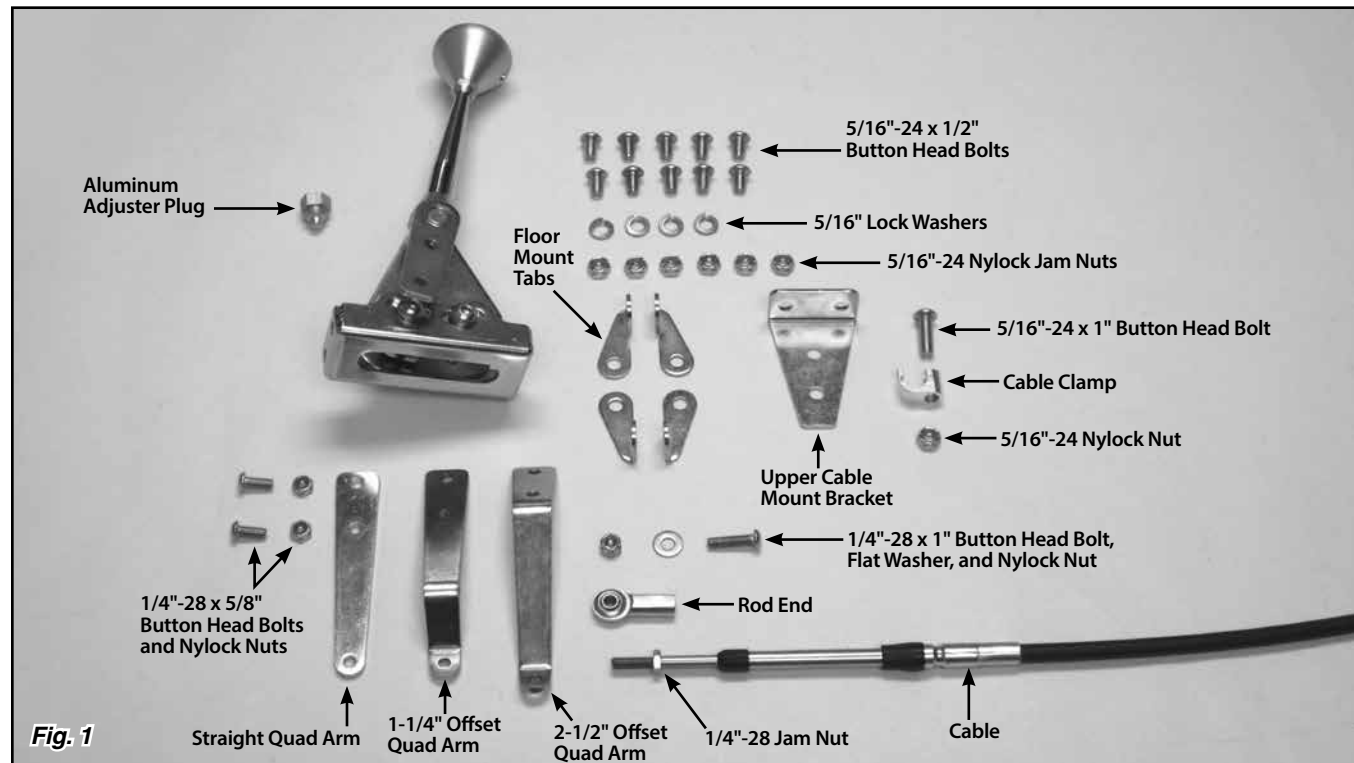

Fig. 1
Refer to Figs. 1, 2 and 3 for the component names.
Step 15: Mount the upper cable mounting bracket to the floor using the 5/16"-24 x 1/2" button head bolts and nylock jam nuts. **Fig. 1**